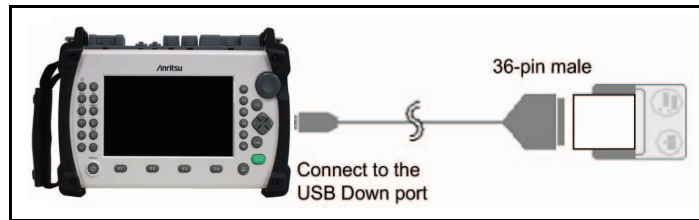

Figure 4-42: Connecting the BL-80R11 Printer
1. Connect the BL-80R11 or SD1-31 printers to the MT9083 Series as shown in Figure 4-42, and then power up the printer.